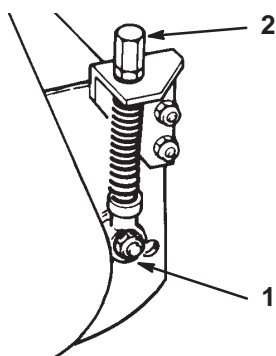

Figure 13
2. If there is no contact, loosen the adjuster locking nut on each adjuster (Fig. 13). Then, equally turn each adjuster knob clockwise until light contact is felt and heard.